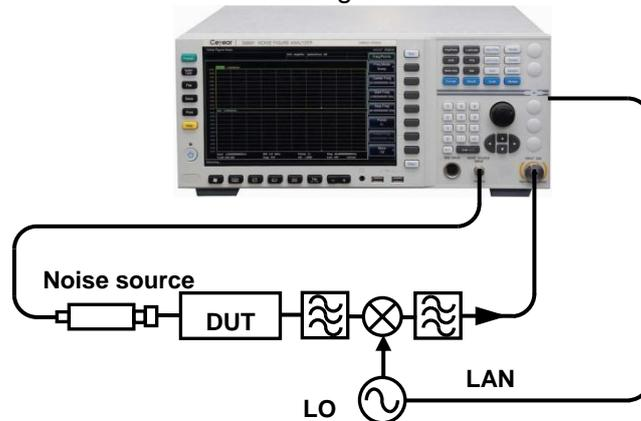

Fig.4.6 Measurement Connection Diagram of System Downconverter Mode
**Step 3.** After the calibration is completed, insert the DUT between the noise source output and the RF input port of the system downconverter for measurement. The measurement connection of the system downconverter mode is shown in Fig.4.6.